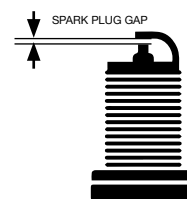

Figure 22
- Spark plug gap (the acceptable limit of 0.027–0.032 in. [0.60 – 0.80 mm]) (see Figure 22).